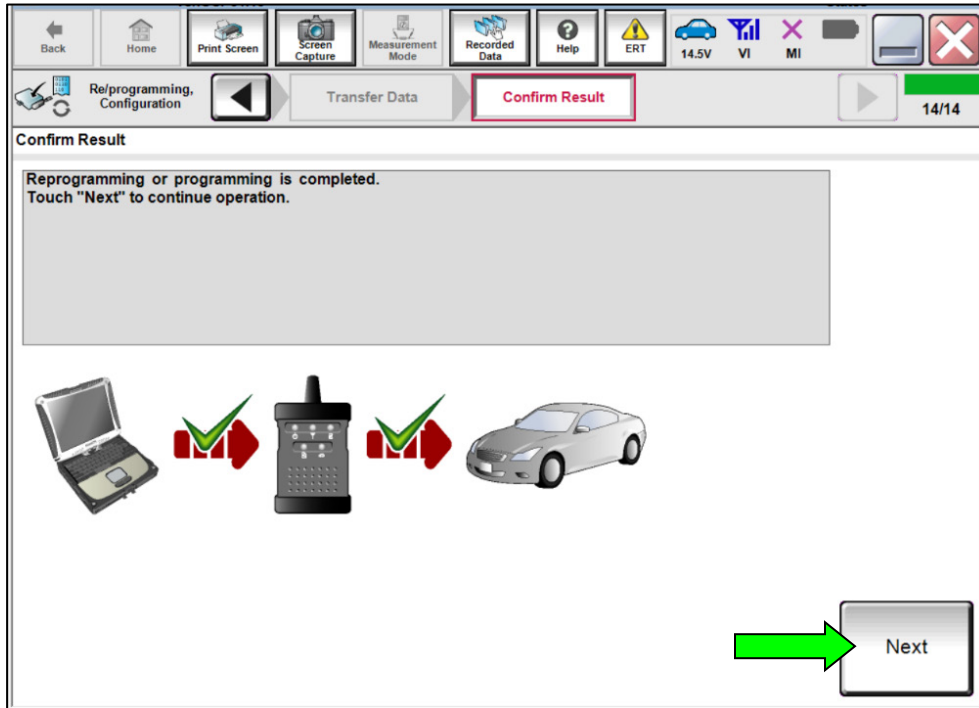

Figure 16
24. Once the screen in Figure 16 displays, the reprogramming is complete. Select **Next**.
- If the screen in Figure 16 does NOT display, indicating that reprogramming did not complete, refer to **Reprogramming Operation is Unsuccessful (Recovery)** on page 37.